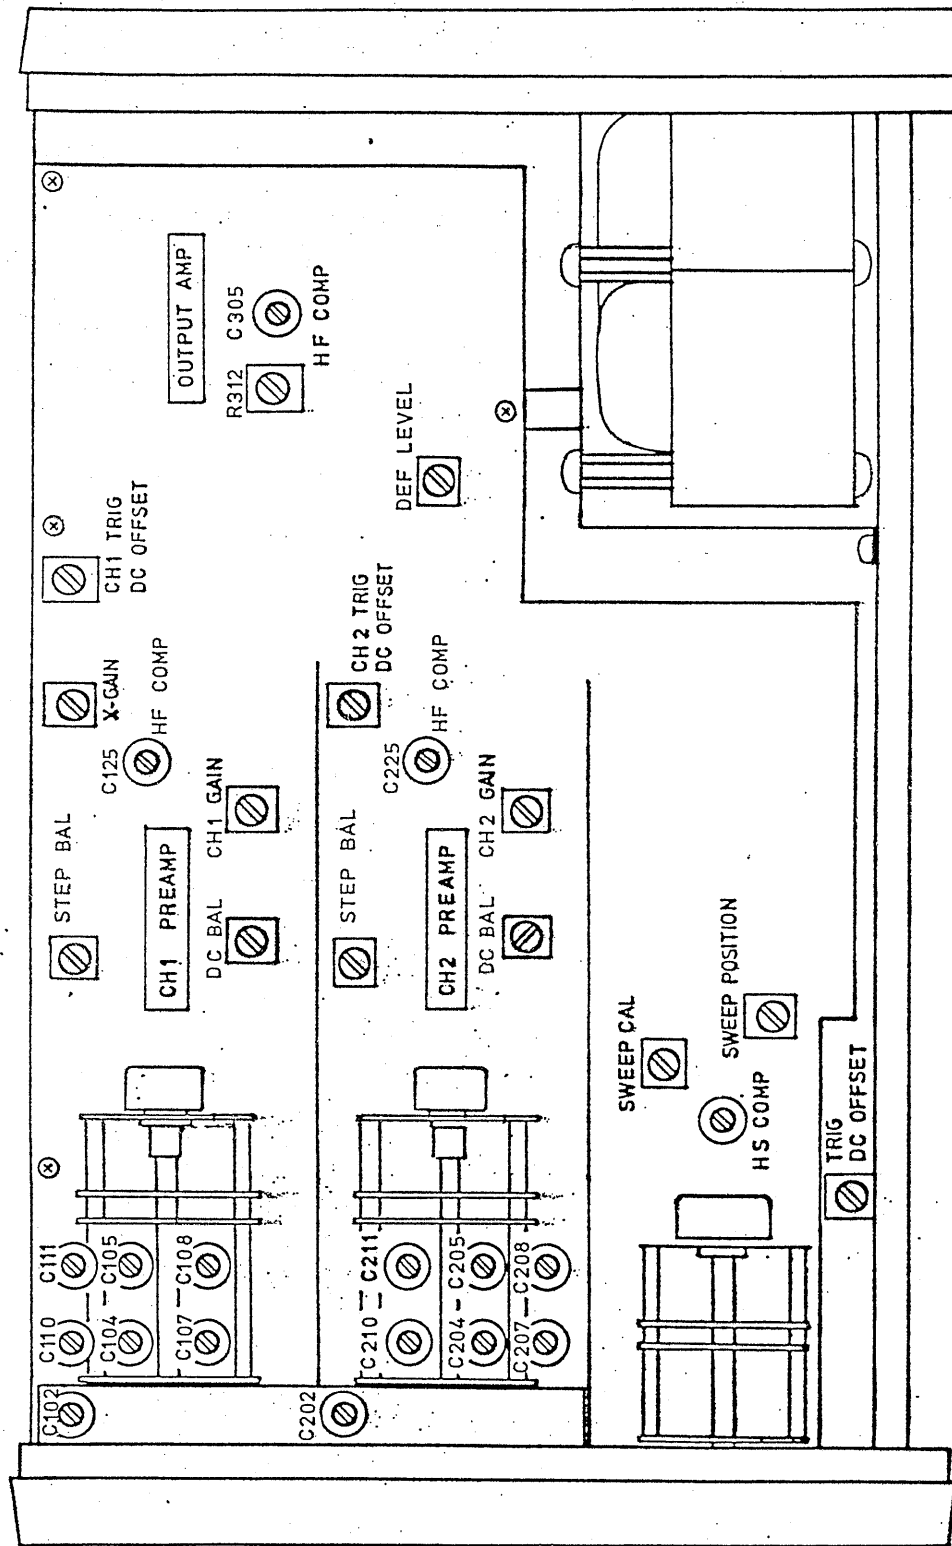

Fig. 24
6.3 Adjustment of Vertical Axes (Refer to Fig.24.)
- (1) Set the GND button in $\underline{\text{GND}}$ position, and display a horizontal trace line in the CRT screen.
- (2) Adjust the STEP BAL control (Refer to Fig. 24.) so that the shift of the horizontal trace line is made minimum, when the VOLTS/DIV switch is set in the 5mV range from the 20mV range or in the 20mV range from the 5mV range.
- (2) Adjust the DC BAL control (Refer Fig. 24.) so that the shift of the horizontal trace line is made minimum, when the vertical variable knob is turned.
- (1) Set VERT MODE in CH1 (or CH2), and display a horizontal trace line in the CRT screen.
- (2) Adjust the DEF LEVEL control (Refer to Fig. 24.) so that the potential of the pin Y of CRT is in 80V.
- (1) Set the VOLTS/DIV switch in the 5mV range, and adjust the output voltage of the square wave generator so that the amplitude displayed on the CRT screen is 4 DIVs.
- (2) Set the TIME/DIV switch in $0.5\mu\text{s}$ range, and adjust the HF COMP. control (Refer to Fig. 24.) so that the top of the square wave is flat. Frequency characteristics of vertical amplifier is adjusted within $0 \sim \pm 3\text{dB}$ at DC \sim 10MHz.
- (1) Apply the 1ms interval time marker signal or the 1kHz signal to the vertical input terminal, and set the TIME/DIV switch in the 1mS range. Adjust the amplitude of a signal or the VOLTS/DIV switch so that the waveform of an appropriate amplitude is displayed on the CRT screen.
- (2) Adjust the SWEEP CAL control (Refer to Fig. 24.) so that the repetition period of waveform corresponds with vertical graticule lines.
- (3) Apply the 10 μ s interval time marker signal or the 100kHz signal to the vertical input terminal, and set the TIME/DIV switch in the 10 μ S range. Adjust the HS COMP. control (Refer to Fig.24.) so that repetition period of waveform corresponds with vertical graticule lines. By this adjustment, sweep times of all ranges of the TIME/DIV selector are calibrated, and the function of the 5x MAG is also calibrated by the same adjustment without any other adjustment.
6.5 Adjustment of Horizontal Axis (X axis) (Refer to Fig. 24.)